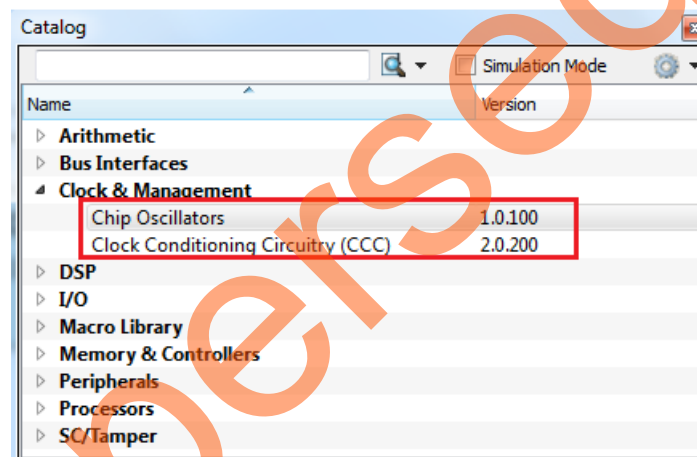

Figure 15 • Catalog Window
1. Click on the **Catalog** tab and drag and drop the **Clock Conditioning Circuitry (CCC) and Chip Oscillators** block from the **Clock and Management** sub-section of the **IP Catalog** into **Sysservices SmartDesign** window as shown in Figure 15.